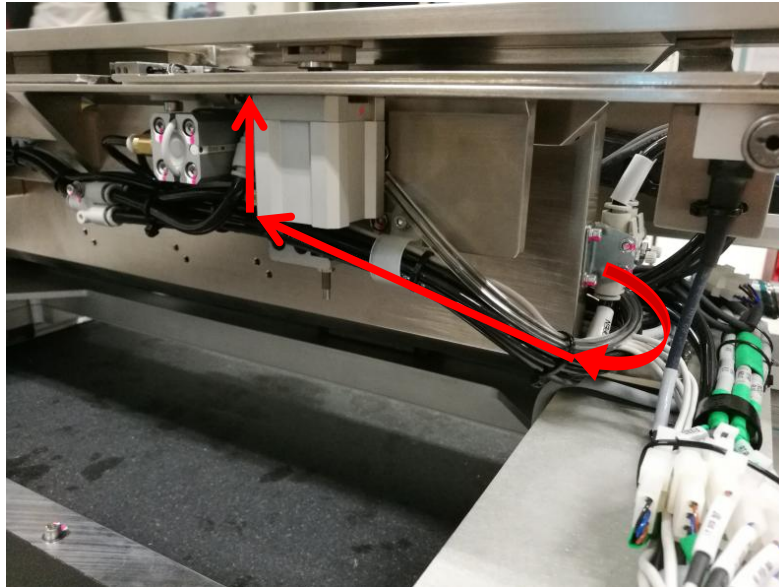

Figure 3 PIP Sensor Cable Removal
4. Remove PIP Sensor Cable by refer to below route. May refer to Figure 2 & Figure 3.